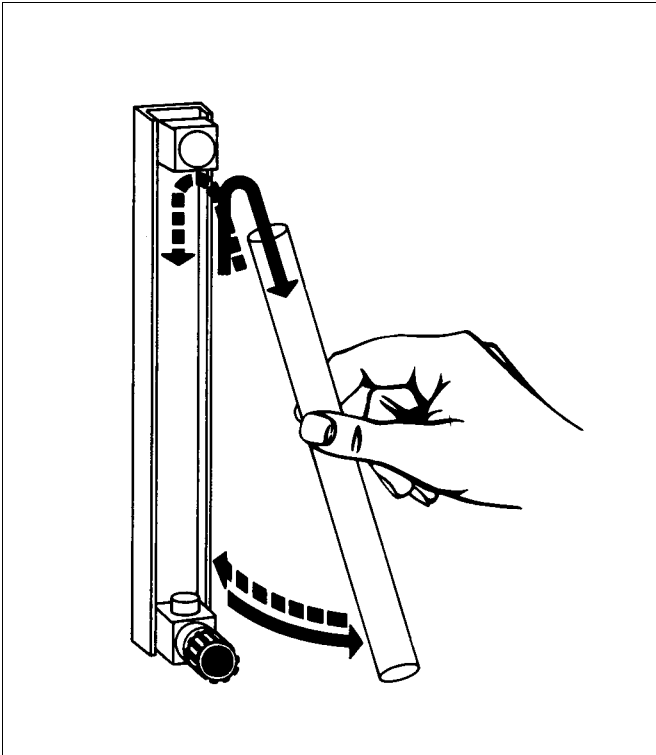

Fig. 2 Removal of the Metering Tube
2. For models without a valve or with a valve at the inlet, lightly press the metering tube upward against the spring (approx. 6 to 7 mm). Remove the lower end of the metering tube towards the front of the flowmeter and pull the metering tube away from the outlet fitting. (See Fig. 2)